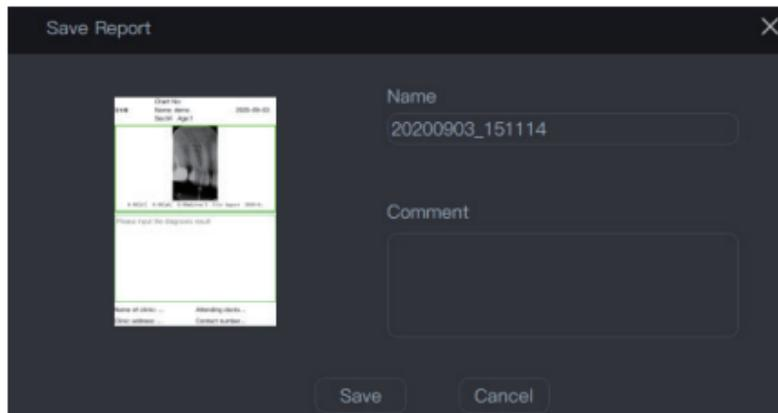

Figure 34
(9) Save the report. Save the current report to the server, as shown in Figure 34. The “Name” field cannot be empty, and the current system time is named "year, month, day-hour, minute, second" by default. Comments can be input in the “Comment”. Click “Save” to save and click “Cancel” to cancel saving.